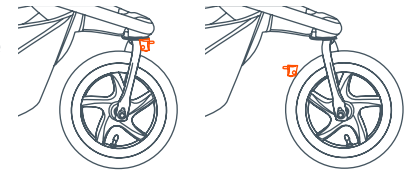

Fig. 12a
- 12) The front wheel is equipped with a swivel locking device and can lock the wheel in the front or back position (Fig. 12a).